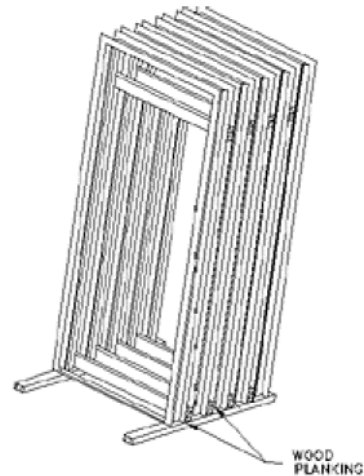

Figure 1 - FRAME STORAGE
3. Store doors and welded frames in an upright position with heads uppermost. Figures 1 and 2.